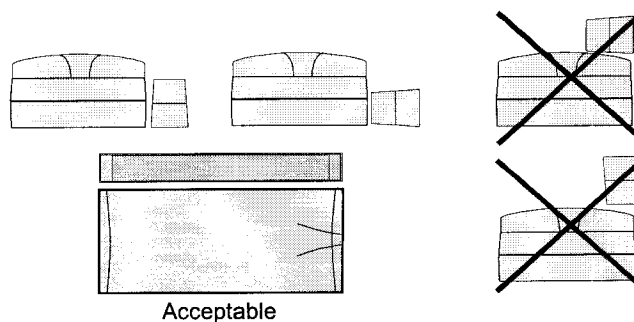

Figure 1 - Mounting Considerations
- Note that the Magnet Assembly **must** be mounted within 1 to 1.25 in. (25 to 32 mm) of the Point Transmitter and in an acceptable orientation as shown in Figure 1.